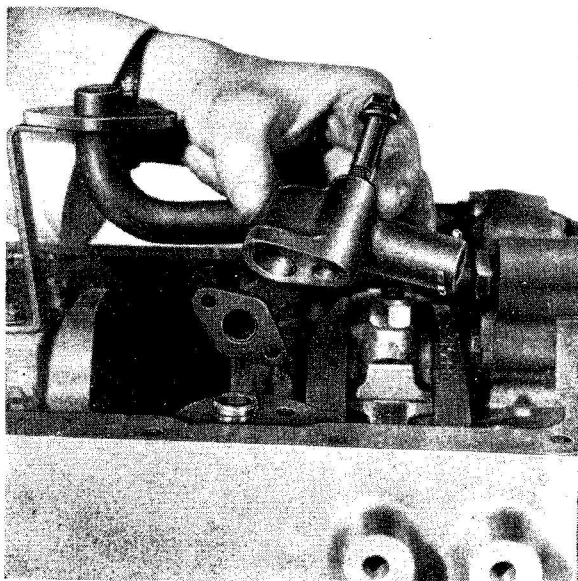

Fig. 14
3. Remove the relief valve housing, later type (Fig. 14).